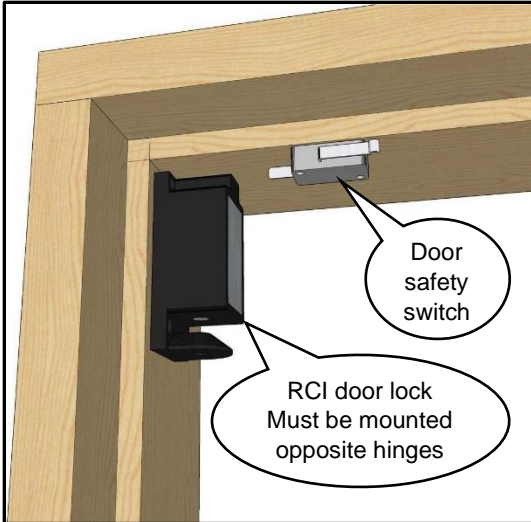

Figure 18
- 1 Mount one safety switch to the jam of each opening, (i.e. motor access panel/door, first floor, second floor, etc.), so that you can hear the switch click when opening and closing the door. **(see Figure 18)**